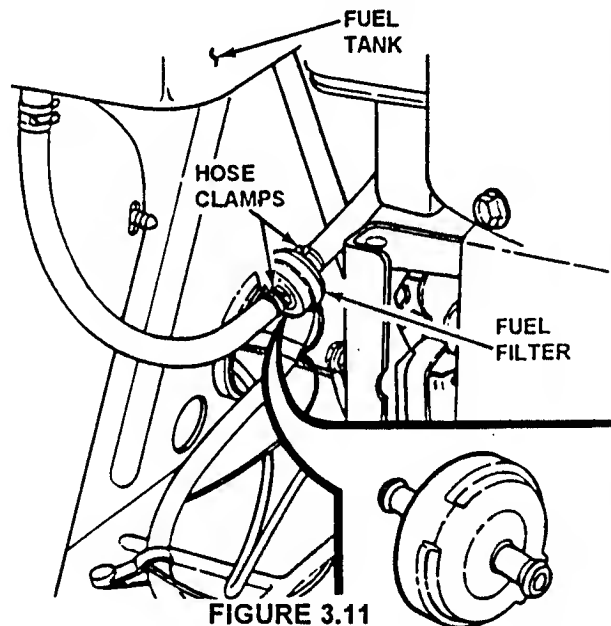

FIGURE 3.11
- Install new fuel filter. See Figure 3.11.